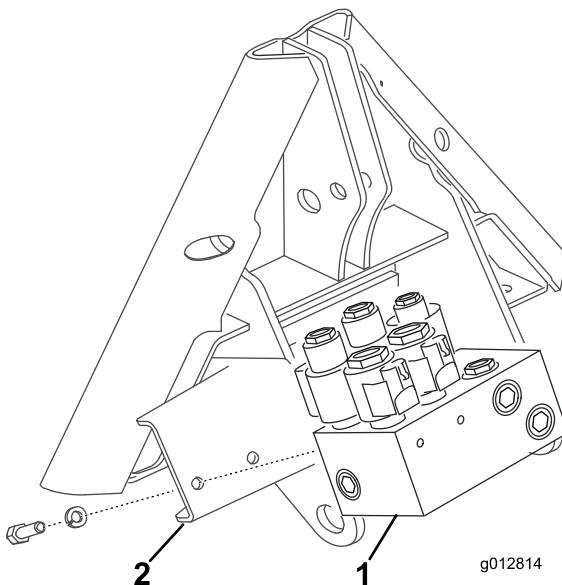

Figure 6
1. Pivot pin 3. 45 degrees (2)
8. Mount the hydraulic manifold to the back of the lift adapter with 2 screws (5/16 x 3/4 inch) and lockwashers (5/16) (Figure 6).